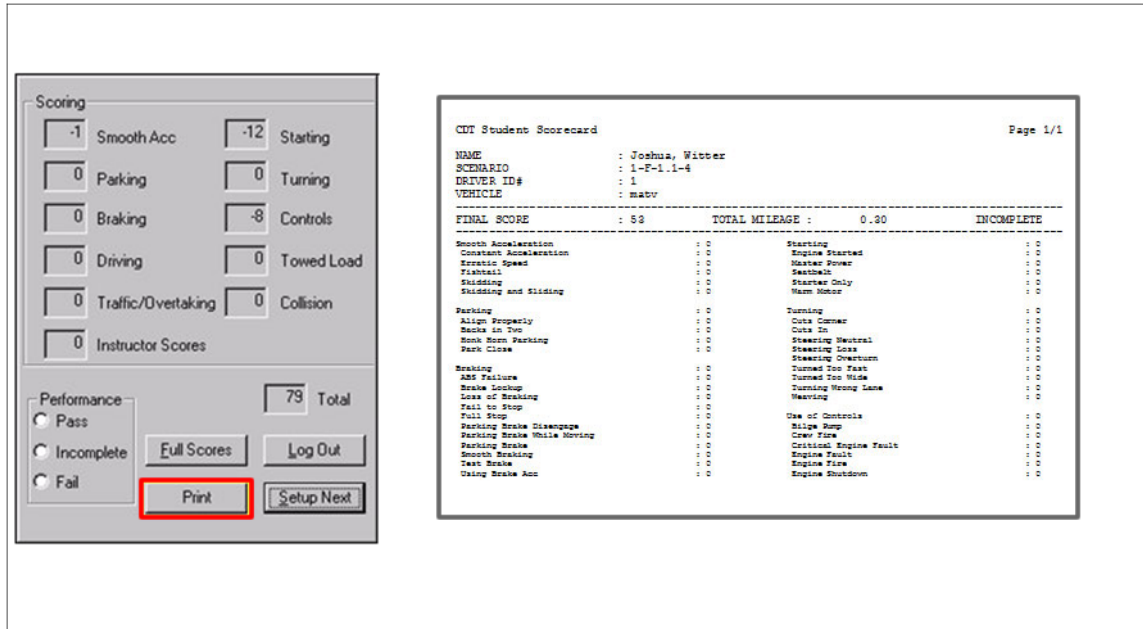

Figure 176. Printing CDT Student Scorecard
5. After clicking the [PRINT] button in the Scoring window, the student's scorecard appears (Figure 176). The student scorecard includes the following scores: Smooth Acceleration, Parking, Braking, Driving, Traffic/Overtaking, Starting, Turning, Use of Controls, W/Towed Load, and Collision. Any additional deductions added by the instructor appear at the bottom of the report, along with the reasons for the deductions.